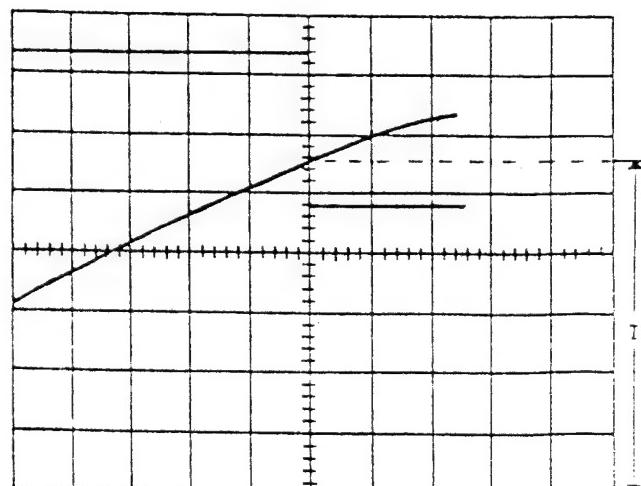

Fig. 6
- (1) Connect CH-1 on the oscilloscope to TP2001 and connect CH-2 on the oscilloscope to TP2003.
- (2) Playback the recorded portion and adjust VR2002 so that "T" portion may become $2.6 \pm 0.05\text{V}$ as shown in Fig. 6.